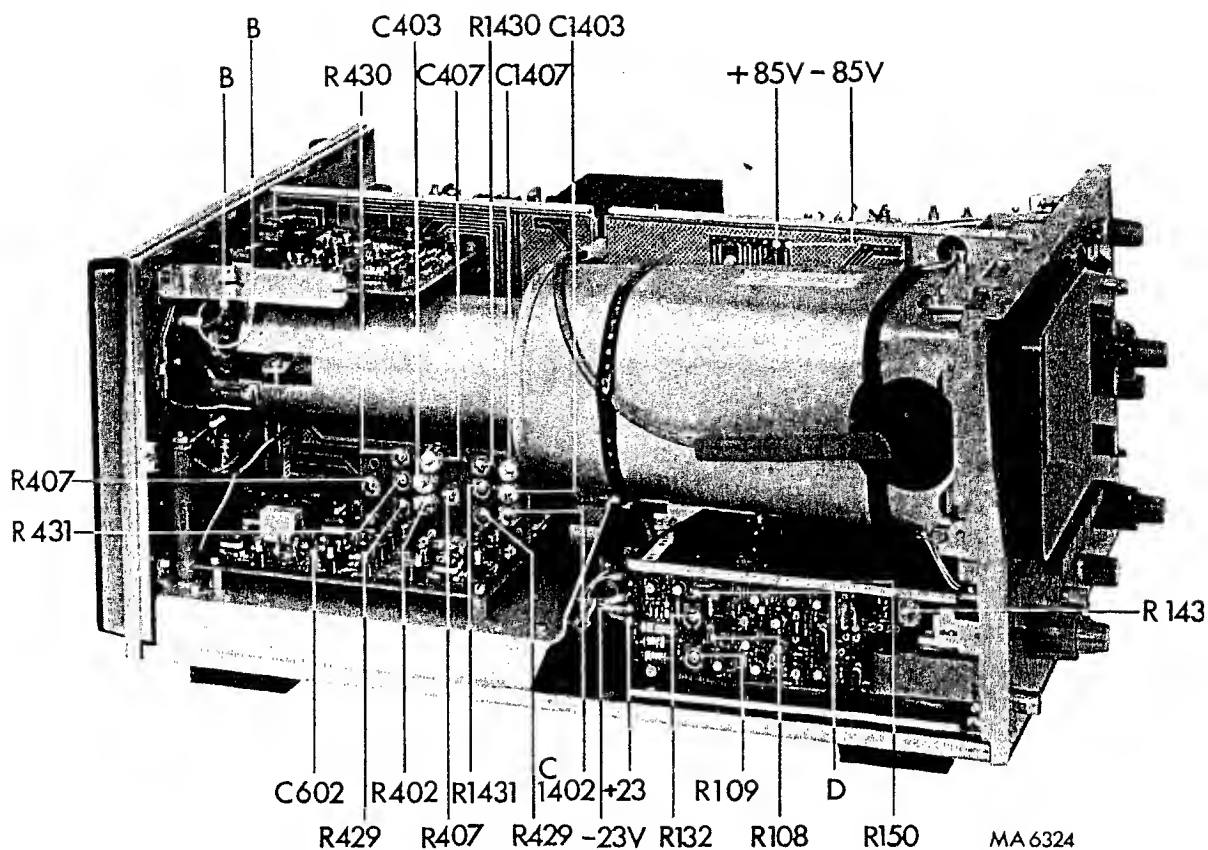

Fig. 49. Checking and adjusting; left-hand side view
- Check that the +23 V (Fig. 49) voltage is accurate within 0.5 % at nominal mains voltage. If necessary readjust R1114 (Fig. 50).
- Check the presence of the voltages –23 V, +85 V, –85 V, –1600 V and +8500 V, tolerance ±10 % (Figs. 49 & 50).